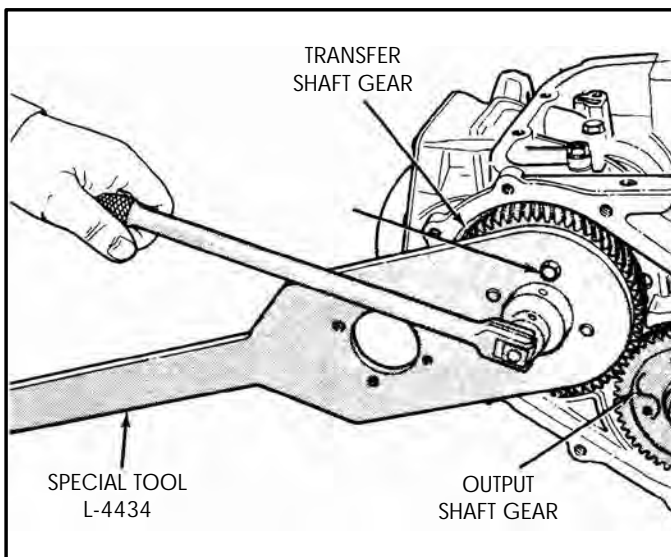

Figure 118
4. Using special tool L-4434 installed with two bolts, as shown in Figure 118, remove the transfer shaft gear retaining nut and washer.